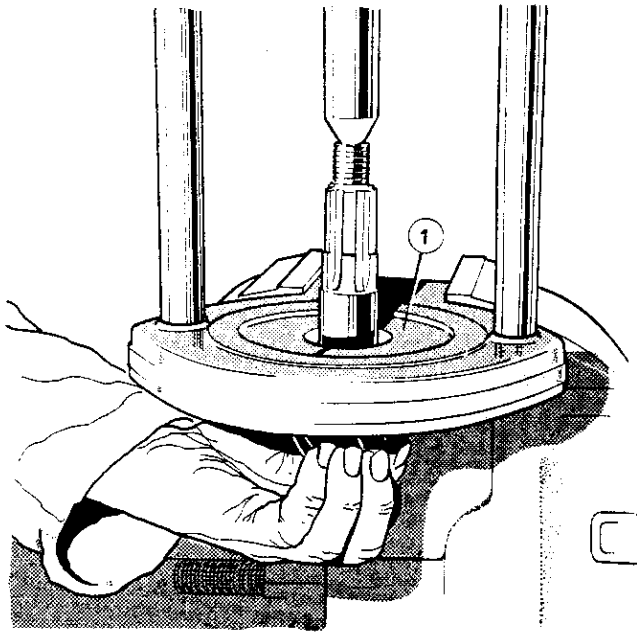

Figure 7 Removal of pinion bearing using collars and hand press
8. Using hand press tool No. 47 and pinion bearing remover tool RT 8765, follow the same procedure as the differential unit and remove the pinion bearing. (**Figure 7**). Note the value of the spacing washer thickness next to the pinion head plus any additional shims.